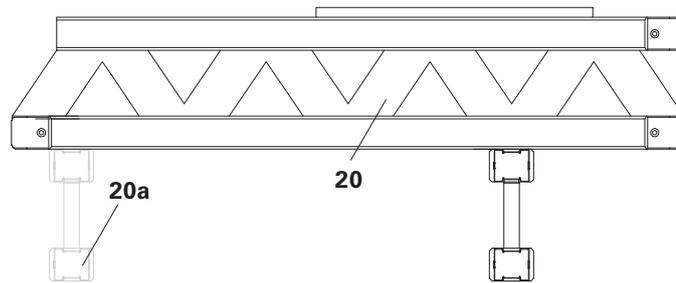

Fig. A2.23
2. Position and align required GT 24 main beams for accommodating MP props and cross beams according to the plans. (Fig. A2.23)
Use GT 24 Girders (20a) as assembly aids. (Fig. A2.23)